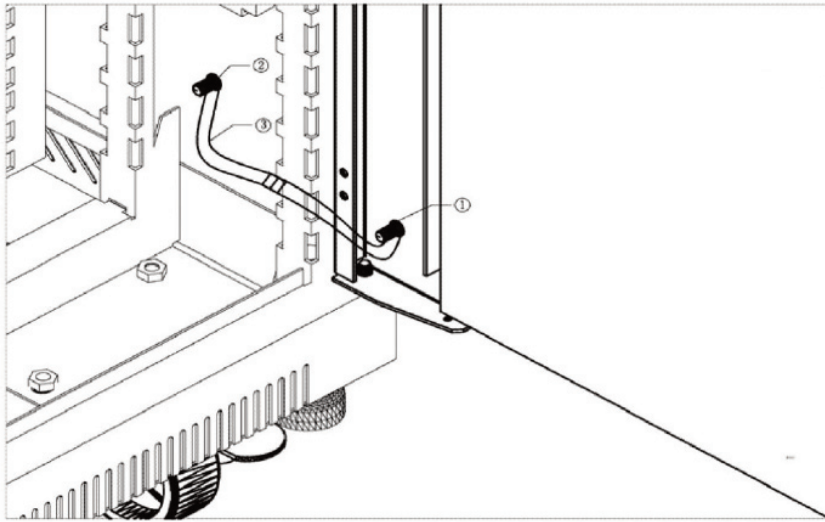

Figure 9 Schematic Diagram of Cabinet Grounding
The cabinet door shaft contains one yellow screw as shown in Figure 9, identified with marker ①. Figure 9, marker ②, represents another grounding terminal in the same position in the cabinet. Connect the two terminals with a wire.
The ZS-2000M and ZS-1500/ZS-2250/ZS-4125 grounding terminals must be connected to the terminal blocks through flexible cables with a cross-section of 1.5mm² within the cabinet, as shown in Figure 9.